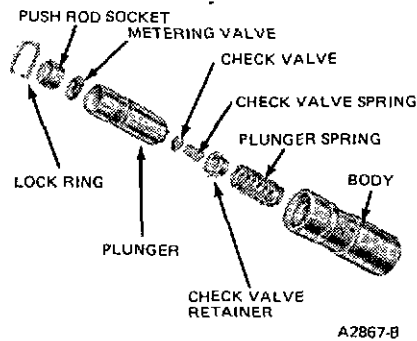

FIG. 61 Hydraulic Valve Lifters
- Hydraulic valve lifter assembly is shown in Figure 61.